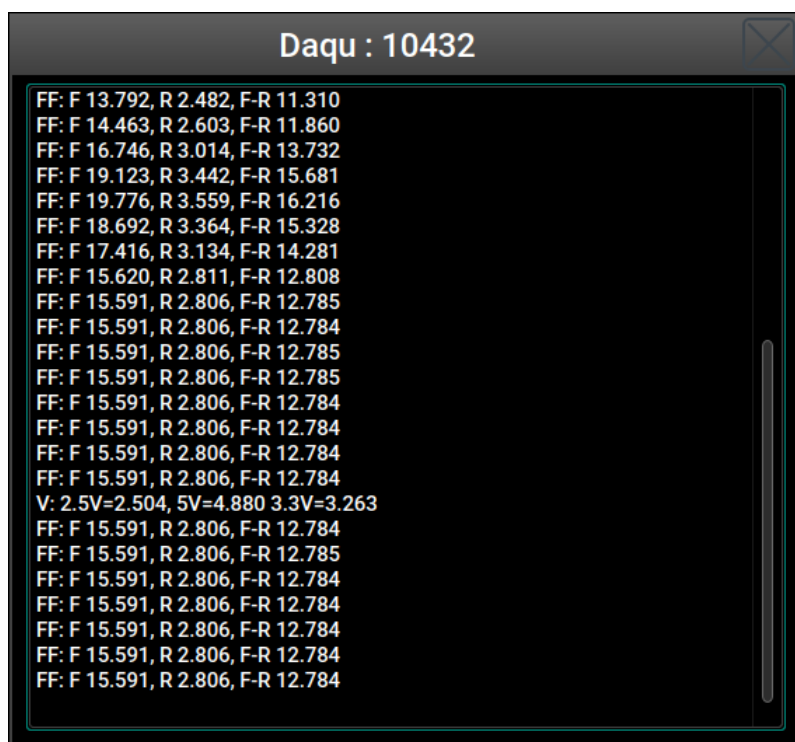

Figure 47: An example of Daqu console output in Nesis.
4. The **Open console** is the correct option. This opens console window for Daqu. You will see something like shown on Figure 47.